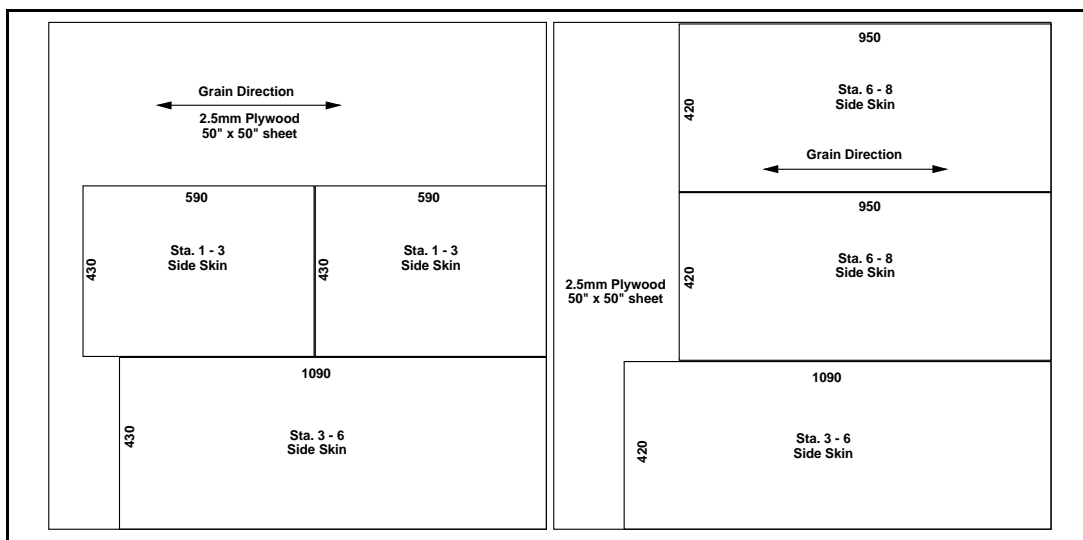

Figure 2
- Cut two 50" x 50" sheets of 2.5mm birch plywood as shown in Figure 2.